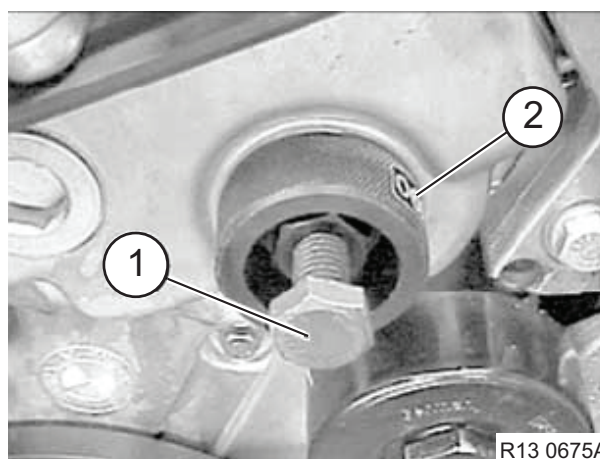

Figure 6-27
1. Remove jack screw (**Figure 6-27, (1)**) but leave sleeve (**Figure 6-27, (2)**) (special tool OEM No. 13 5 192) installed.